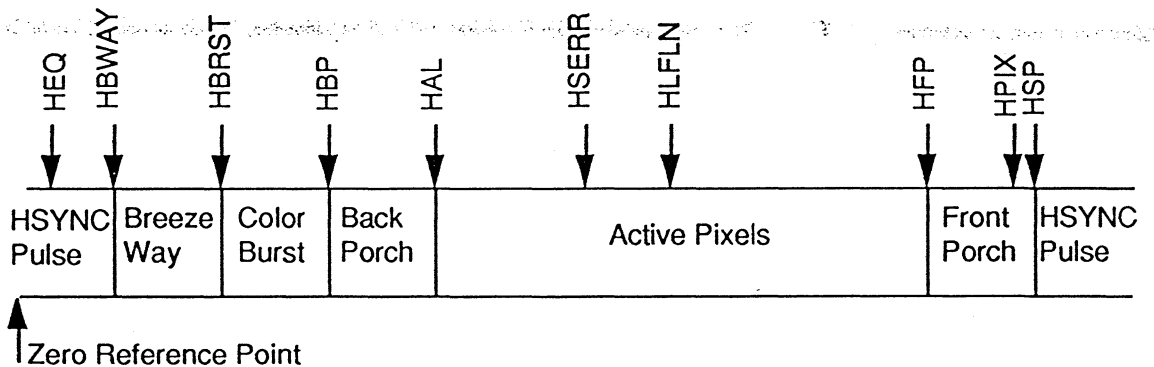

FIGURE 60. SWATCH HORIZONTAL TIMING STATES
6.6.2.2 Swatch Horizontal Timing Registers: Swatch is composed of both horizontal and vertical timing generators. The horizontal timing generator is driven from either the PIXCLK or VIDCLK video clock input, whichever is selected as DAFB II's main video clock. Horizontal timing is specified by a number of parameters which control when transitions between different states in a horizontal line occur. These parameters and states are shown in Figure 60 below: